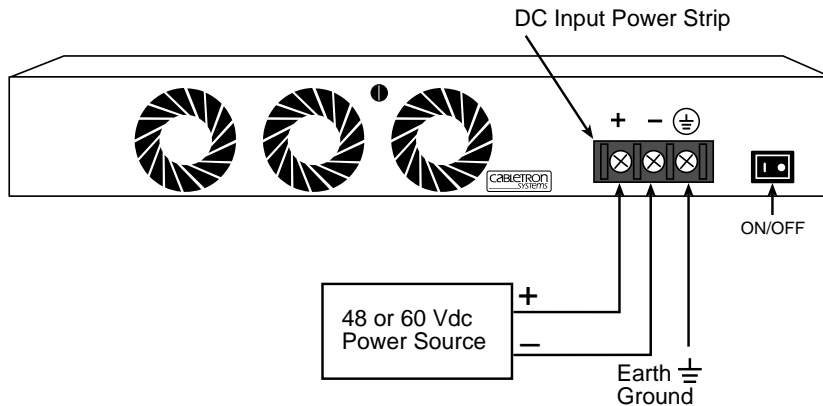

Figure 20 48/60 Vdc Power Supply Connections
The CSX400-DC requires either a 48 Vdc or 60 Vdc (48/60 Vdc), 3.5 A (maximum), external power source supplied by three 18 AWG (American Wire Gauge) copper wires. These wires must be terminated to the dc input power strip shown in **Figure 20** with either ring or spade terminals. The dc power supply in the CSX400-DC has its own on/off switch and is rated at 100 watts. To connect the CSX400-DC to a 48/60 Vdc power source, face the back panel, then refer to **Figure 20** and proceed as follows:
2. Refer to **Figure 20** for the proper connections to a 48/60 Vdc power source. Then connect the output leads of the 48/60 Vdc power source being used to the labeled negative (-) and positive (+) terminals on the dc input power strip.